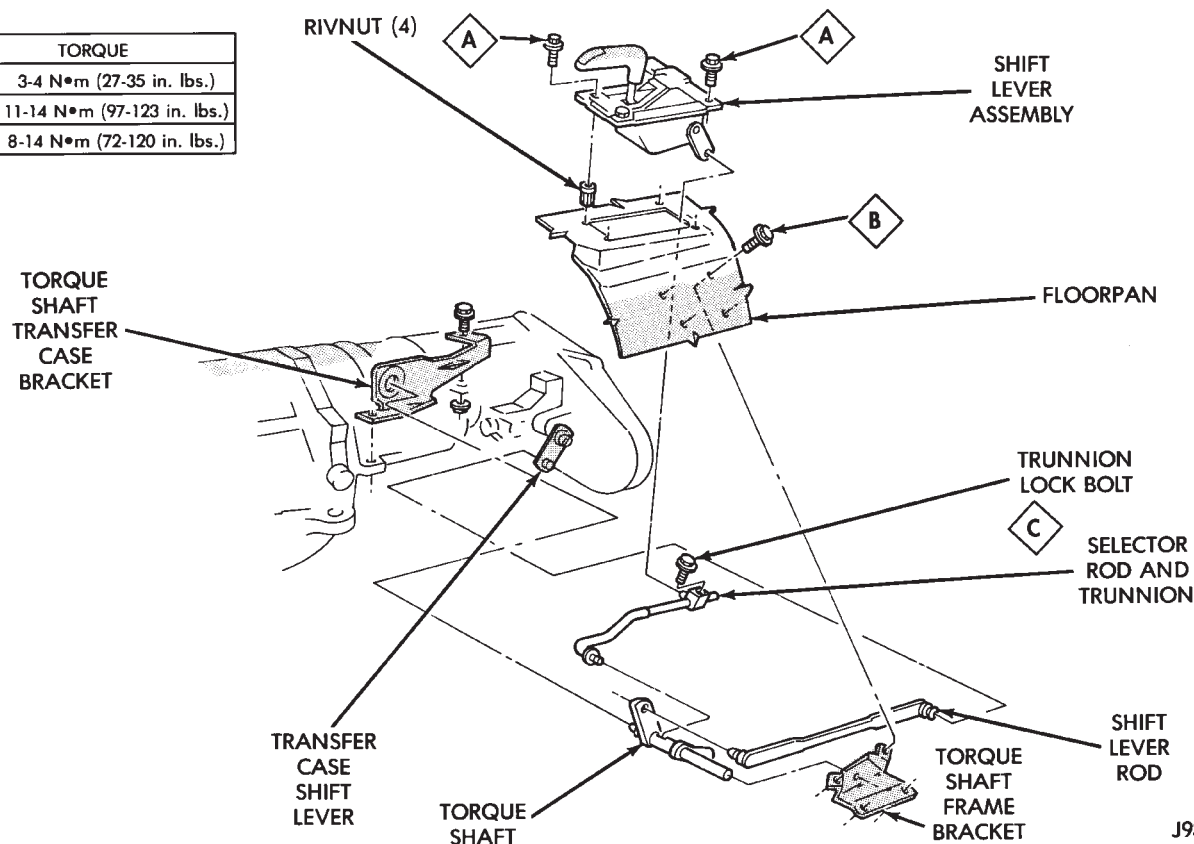

Fig. 3 Transfer Case Shift Linkage (Automatic Transmission)
- (1) Shift transfer case into Neutral position.
- (2) Raise vehicle on hoist that will allow all four wheels to rotate freely.
- (3) Loosen trunnion lock bolt (Figs. 3 and 4). Loosen bolt enough so selector rod slides freely in trunnion.
- (4) Verify that shift lever on transfer case is in centered in Neutral position.
- (5) Tighten trunnion lock bolt to 11-20 N•m (96-180 in. lbs.) torque.
- (6) Lower vehicle enough for entry into driver's seat but keep all wheels off shop floor.